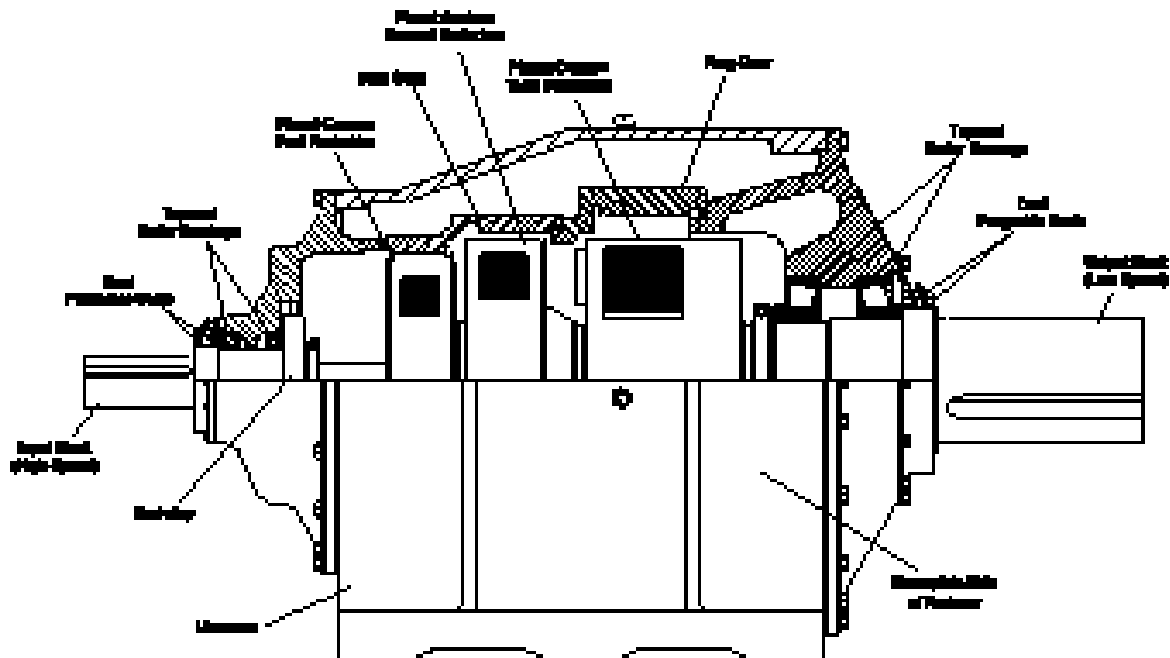

Figure 1.2—Sectional View of a Planetgear Speed Reducer
The **Planetgear** unit is a concentric shaft speed reducer that uses a simple planetary design, which utilizes a sun gear as the input, a ring gear as the fixed element, and a planetary carrier as the output. Power is transmitted from the reducer input shaft, through a splined connection to the input gear (sun gear) of the first reduction. The input gear drives the planet gears, which in turn drive the planetary carrier assembly. This carrier assembly is then connected to the next reduction sun gear or to the output shaft through a splined connection. Each carrier represents a single reduction. The reducer output shaft rotates in the same direction as the input shaft, regardless of the number of reductions. **Reference Figure 1.2** for a detailed representation.
**Reference Figure 1.2.**